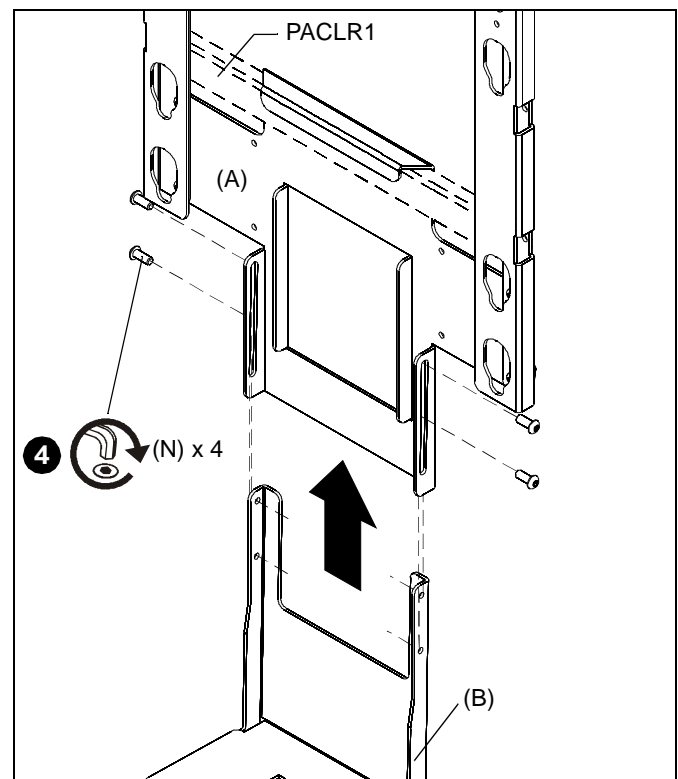

Figure 3
**IMPORTANT ! :** If installing the PACCS1 with the PACLR1 the top mounting flange on the PACCS1 must hang over the top of the lower speaker rail on the PACLR1 when installed. (See Figure 3)
4. Assemble adjustment bracket (B) to shelf bracket (A) using four 1/4-20 x 5/8" button head cap screws (N) -- two on each side of adjustment bracket. (See Figure 3)